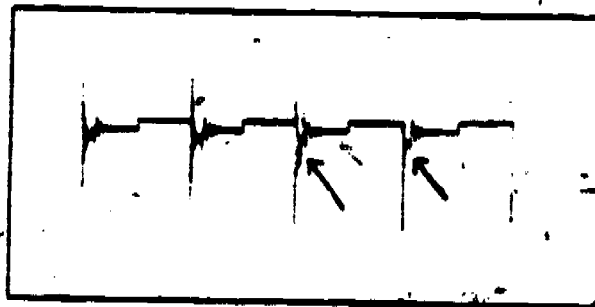

Figure 3-3 Firing Section Distortions
d. Observe waveform for distortion in the firing section. (See figure 3-3). Expand and parade waveform for desired clarity of each cylinder.